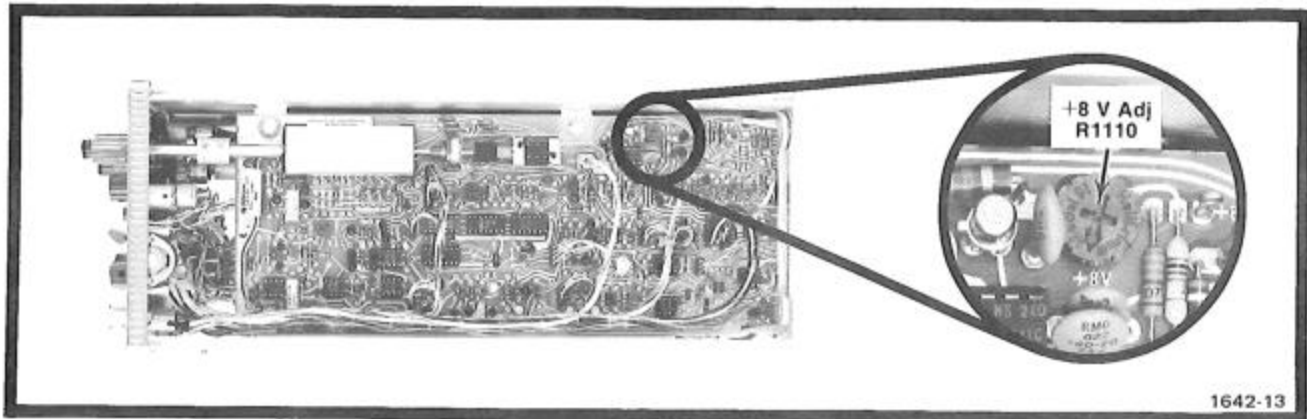

Fig. 5-8. Location of +8 V Adj R1110.
d. ADJUST—+8 V Adj R1110 (see Fig. 5-8) on the Horizontal Circuit Board for a meter reading of exactly +8 V.